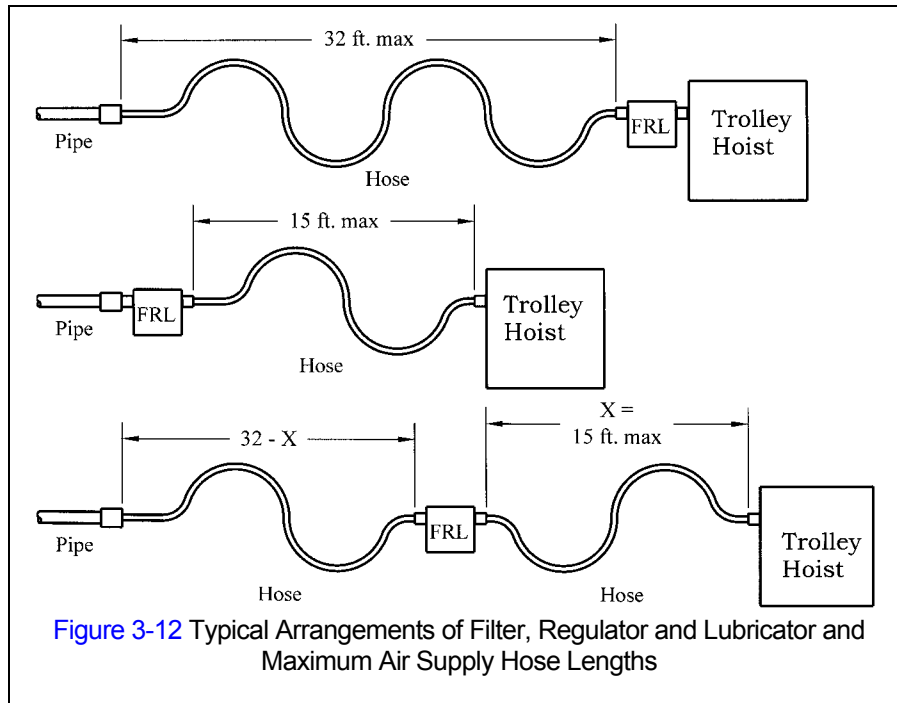

Figure 3-12 Typical Arrangements of Filter, Regulator and Lubricator and Maximum Air Supply Hose Lengths
- Limit the length of the hose to that specified in Figure 3-12.